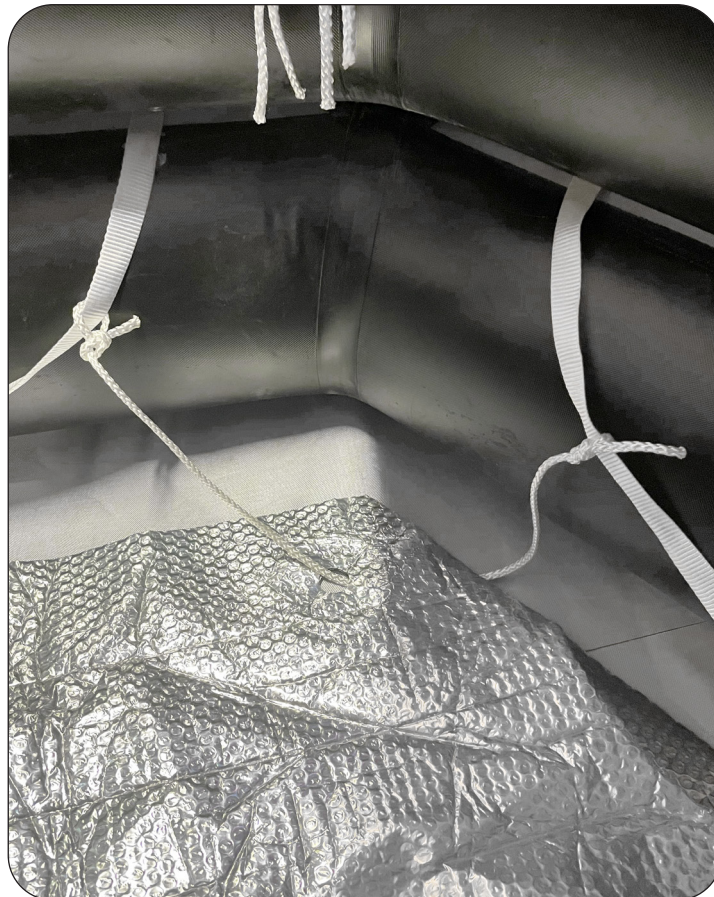

Figure 6
- The floor insulation is now attached to the lifelines instead of the retaining elastic that was attached to the underside of the floor (Refer to **Figure 6**).